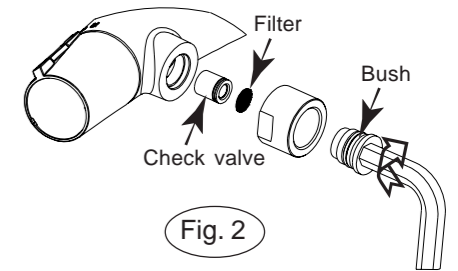

Fig. 2
- Using a 12mm socket wrench, unscrew the pin containing the filter and non-return valve by turning the wrench **clockwise**, push it with the wrench, then extract it (fig. 2).